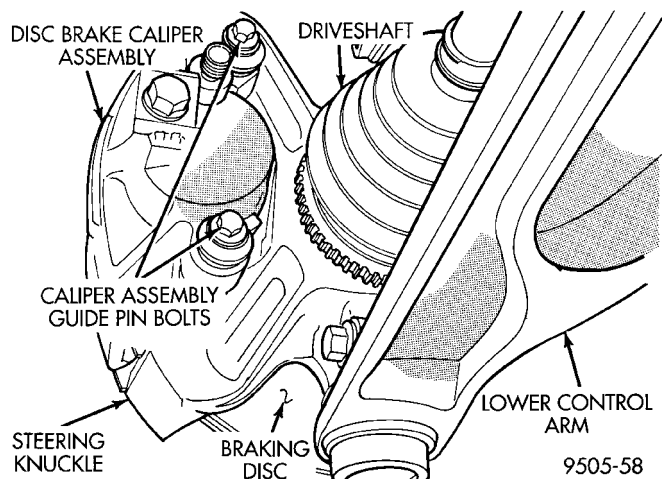

Fig. 54 Caliper Guide Pin Bolts
(1) Raise vehicle on jackstands or centered on a hoist. See Hoisting in the Lubrication and Maintenance section of this service manual for the required lifting procedure for this vehicle.
(2) Remove the front wheel and tire assemblies from this vehicle.
(3) Remove the 2 brake caliper to steering knuckle guide pin bolts (Fig. 54).
(5) Install the caliper guide pin bolts and tighten to 18 to 20 N·m (192 in. lbs.) (Fig. 54). **Extreme caution should be taken not to cross thread the caliper guide pin bolts.**
(6) Install the wheel and tire assembly.
(7) Tighten the wheel mounting stud nuts in proper sequence until all nuts are torqued to half specification. Then repeat the tightening sequence to the full specified torque of 135 N·m (100 ft. lbs.).
(8) Remove jackstands or lower hoist. **Before moving vehicle, pump the brake pedal several times to insure the vehicle has a firm brake pedal.**